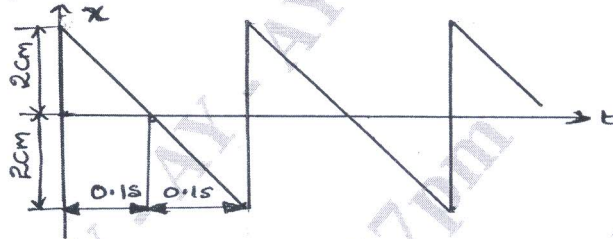

Fig.Q1(b)
- b. Represent the periodic motion given in the following Fig.Q1(b) by Harmonic series.